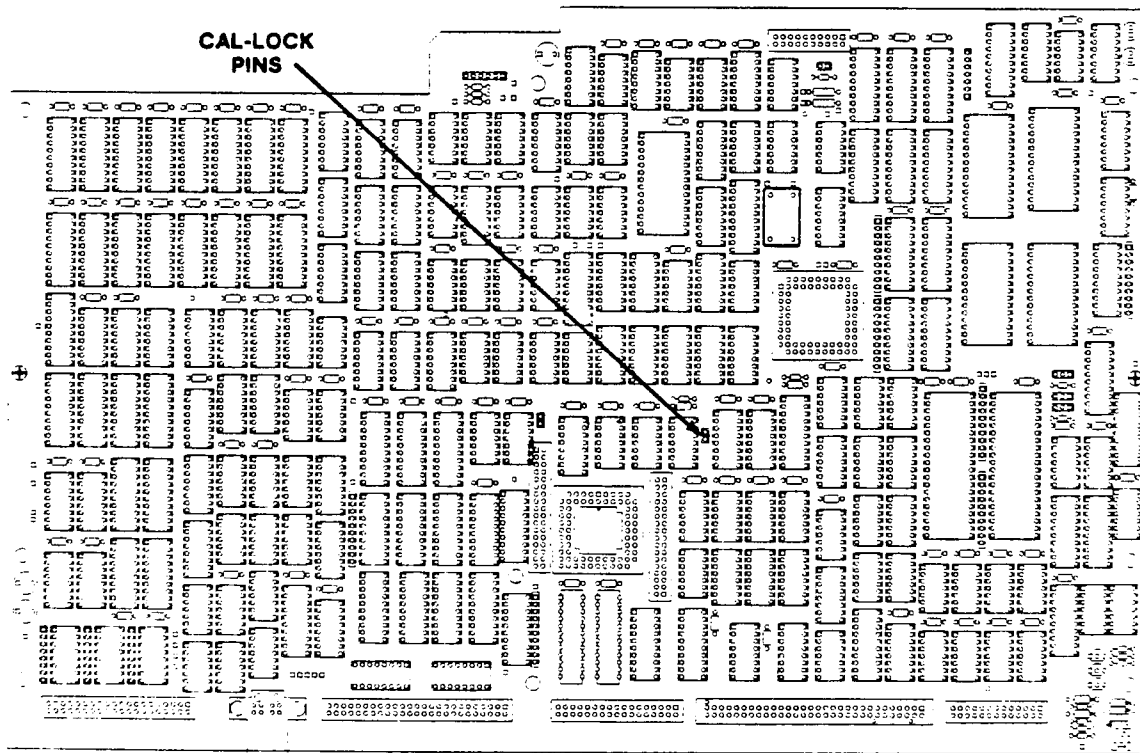

Figure 3. - 11401/11402 Time base ckt bd A6
- () 1. 11401 and 11402. remove the bottom cover of the mainframe and install a Term Conn Link (shorting strap) on the CAL-LOCK terminals located on the Time Base circuit board A6. Refer to Figure 3. for pin locations.